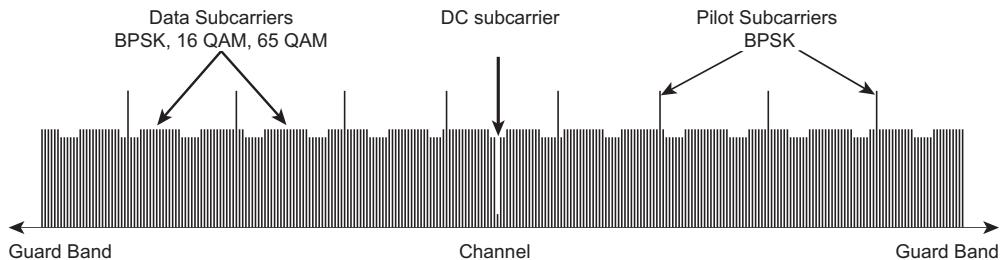

Figure 1. OFDM subcarriers.
While multiple PHYs are defined for the 802.16-2004 standard, the one which dominates the industry is the 256-carrier OFDM format (Figure 1). With this modulation scheme, basic OFDM symbols are based on a 256 point Fast Fourier Transform (FFT). Out of 256 subcarriers, 55 subcarriers are nulled and set aside for guard bands; the center frequency subcarrier is set to zero, since it is susceptible to carrier leakage; the remaining 200 subcarriers are used for data (192) and pilot (8). Note that pilot subcarriers are always binary phase shift keying (BPSK) modulated, while the data carriers can be BPSK, quadrature phase shift keying (QPSK), 16 quadrature amplitude modulation (16 QAM) or 64 quadrature amplitude modulation (64 QAM). These adaptive modulation and coding (AMC) rate configurations can be used to trade off data rate for system robustness under various wireless propagation and interference conditions.